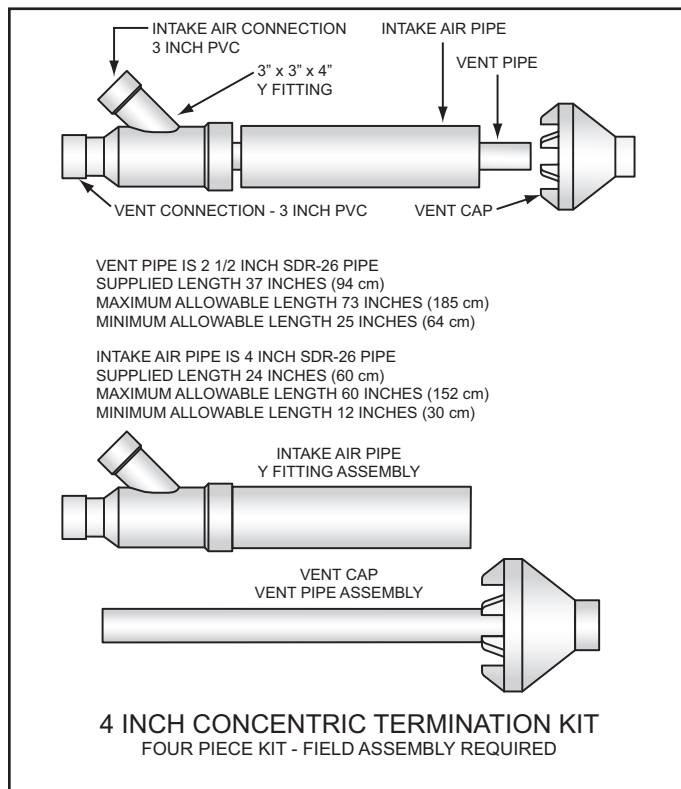
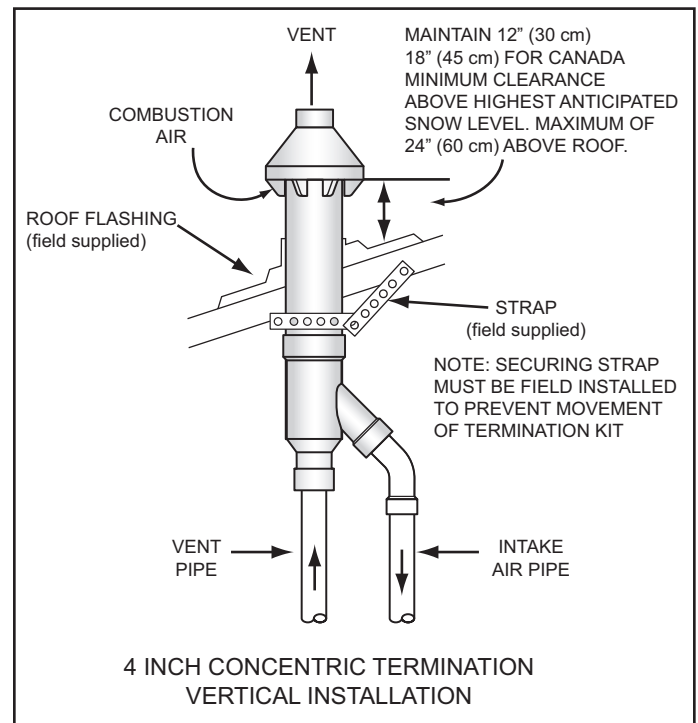
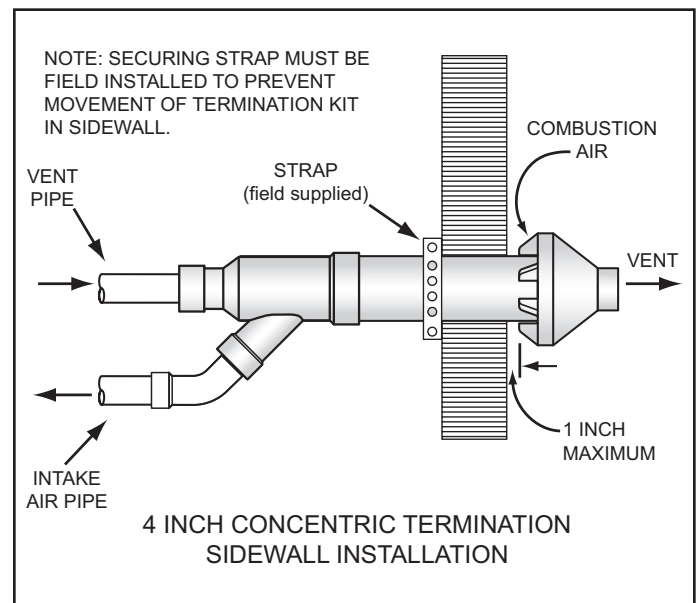

Figure 29
Figure 30
Figure 31
3. When installing a concentric termination vertically through the roof; ensure that all exterior vertical clearance requirements for the concentric termination, shown in Figure 30 on page 31 are being maintained. These clearances and those cited by local and national codes must be maintained.
See Figure 29 on page 31 for the maximum and minimum lengths allowed for the 4 inch concentric termination.
Assemble and install the 4 inch concentric termination. Refer to Figure 29, Figure 30 and Figure 31 for these instructions: